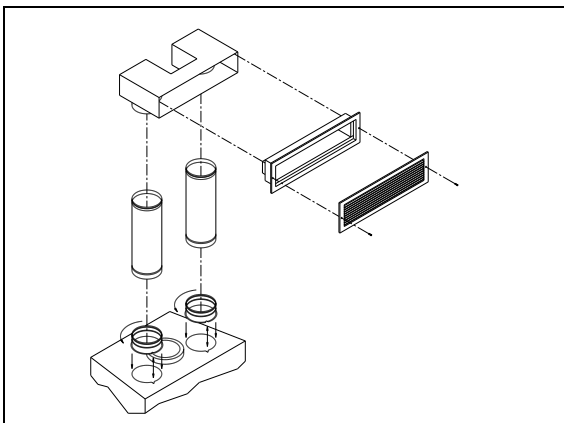

Figure 14
1. Single hot air outlet including: (see Fig.14)
1. Remove the plates closing up the 8" dia. holes on top of the fireplace. Then, cut the insulation in order to obtain two 8" dia. openings. Fix the adaptors on the fireplace openings by turning clockwise (figures 14 and 15).